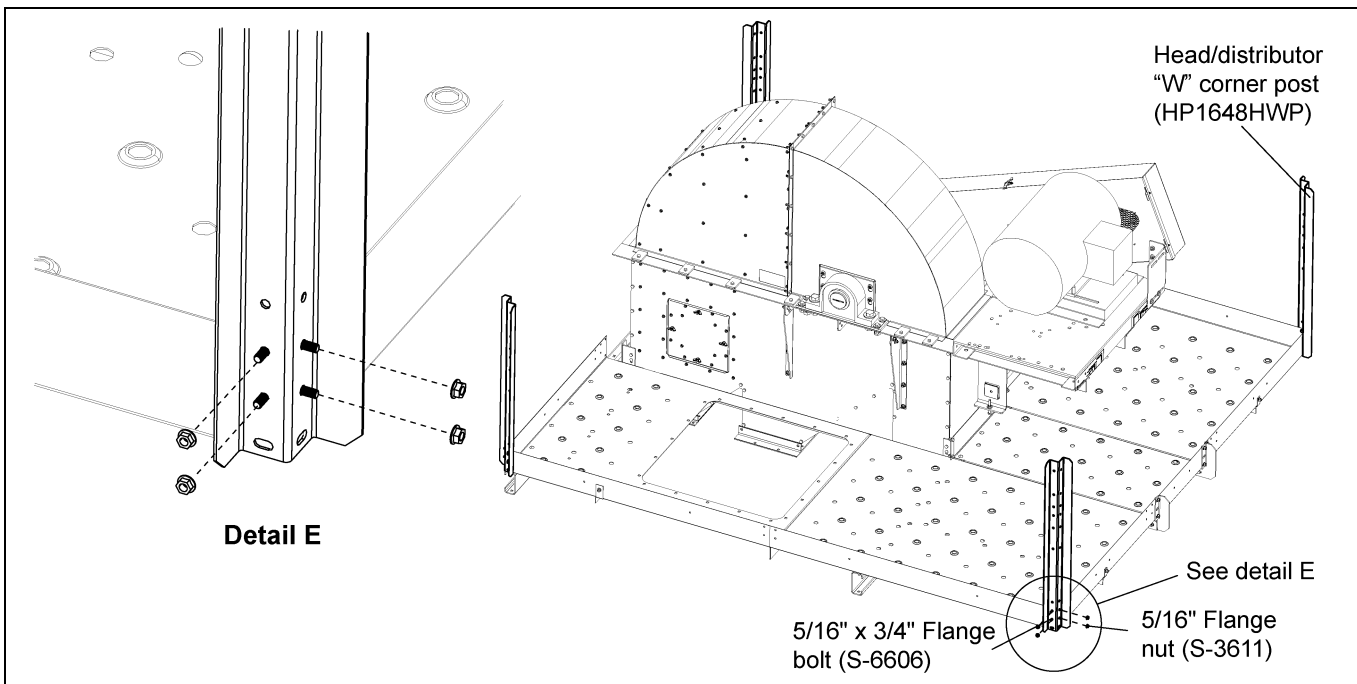

Figure 7O
2. Attach each "W" corner post to decking using 5/16" x 3/4" flange bolts (S-6606) and 5/16" flange nuts (S-3611). Torque to standard specifications. (See Figure 7O.)